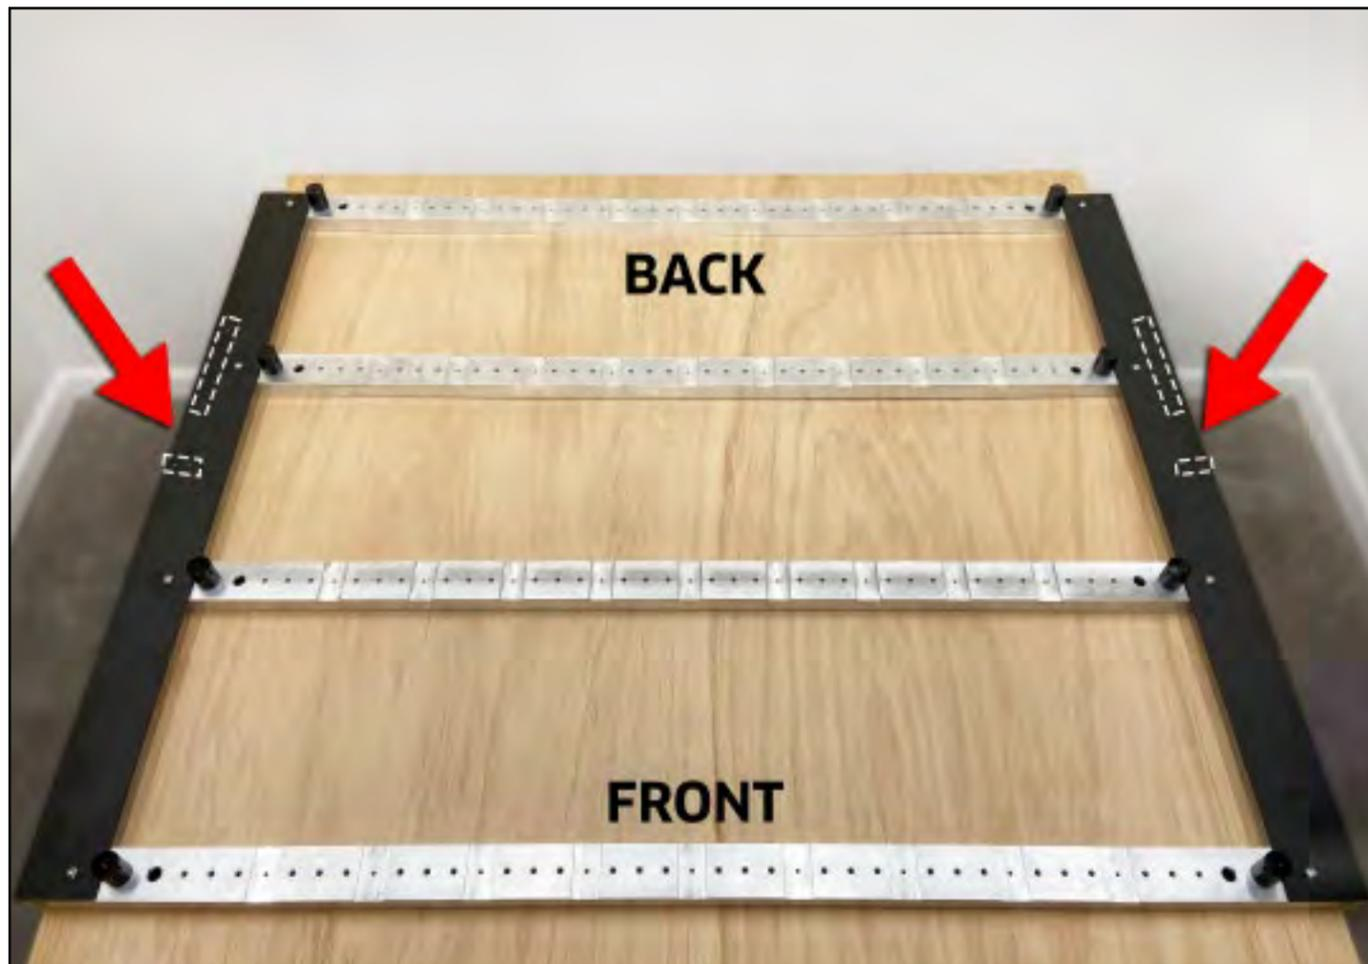

Figure 1-2
1. Position the four crossmembers horizontally across your table. **See Fig. 1-2.**
3. Position the two support panels, front to back, across the outside edges of the four crossmembers. **See Figs. 1-2 and 1-3.**
1. Use a 4mm hex key and eight (8) M6×6mm BHCS to loosely attach the support panels to the crossmembers. **See Figs. 1-2 and 1-3.**